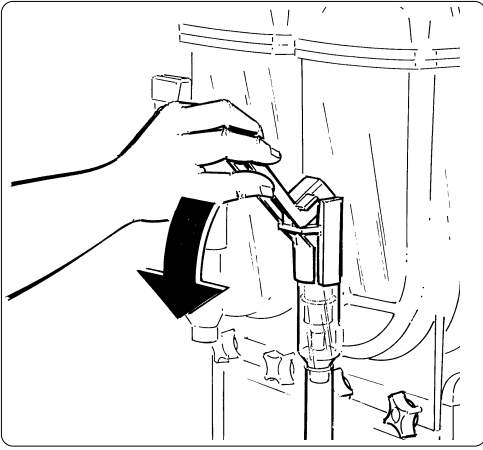

Fig. 22
- k) Lower the tap lever to empty the tank of all the solution (fig. 22).